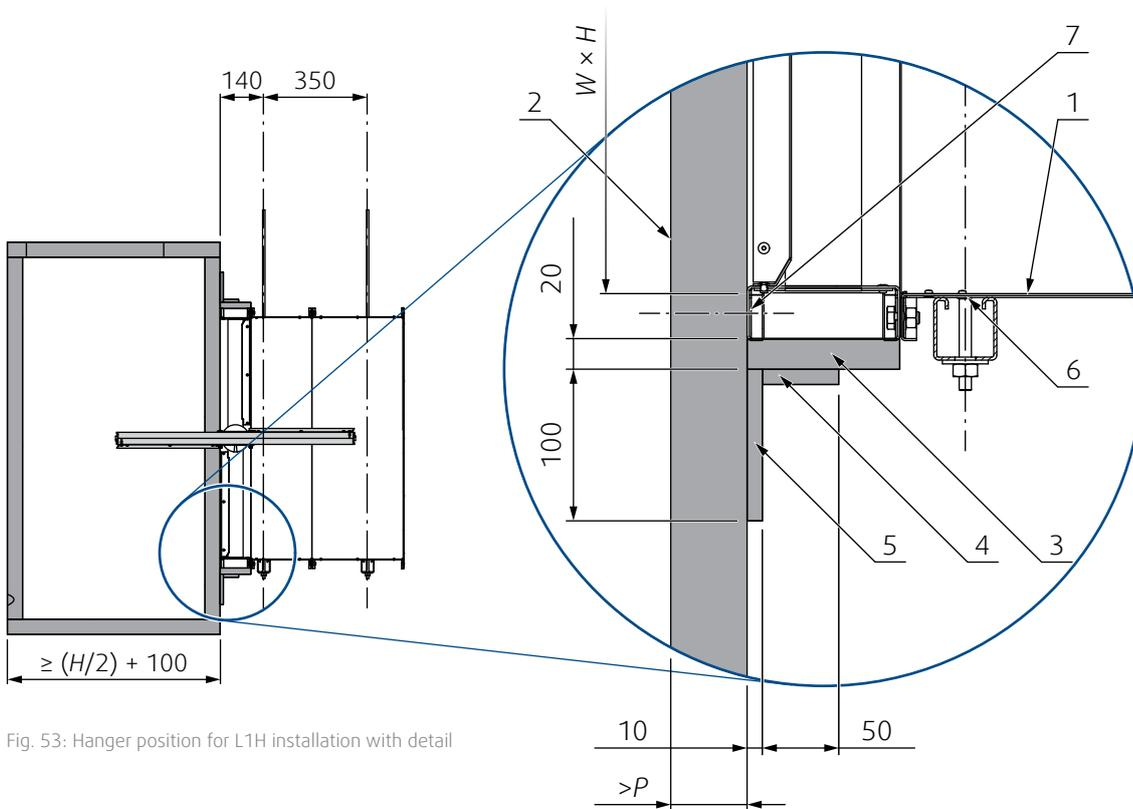

Fig. 53: Hanger position for L1H installation with detail
1. Prepare the duct connection or opening as per  Fig. 53, clean and flatten the connecting surface.
2. Apply a fire resistive coat (8) on the connection surfaces as depicted in Fig. 53
4. From boards (4 and 5) create a collar overlapping the connection as depicted in Fig. 53.
5. Fix the overlapping collar to the damper with screws (6). Fix the collar to the duct by using screws as per instructions of duct system manufacturer.